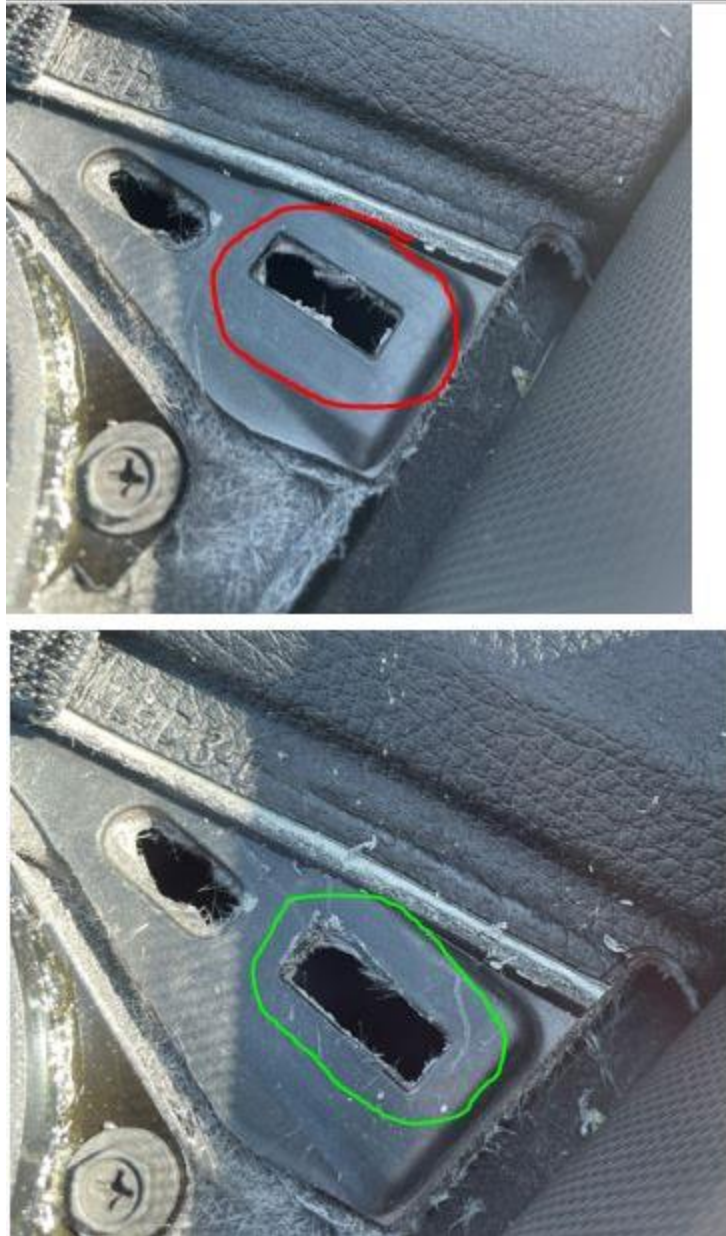

Fig 4.
- 4.) Inspect the clip slots near the suspect location for any excessive flash or glass material. See Fig 4 below.